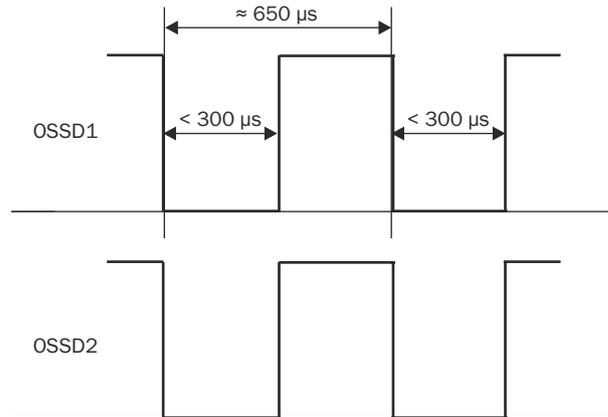
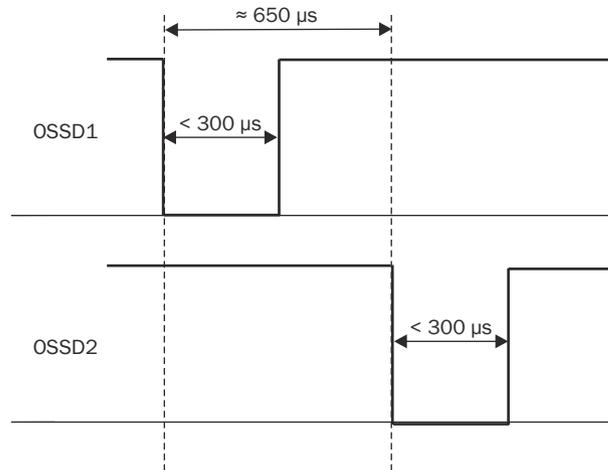
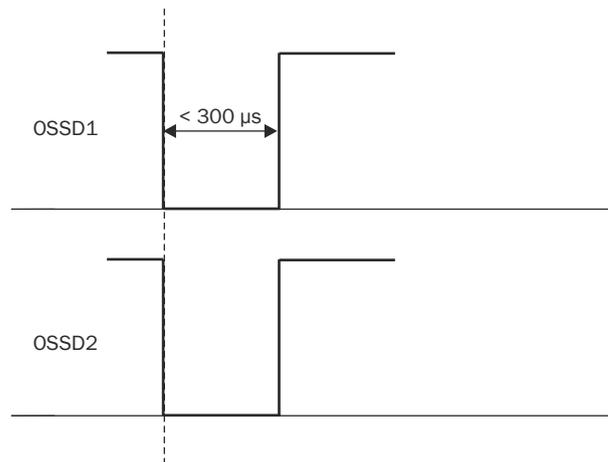

Figure 82: Voltage test after switching on the OSSDs
Figure 83: Shut-down test
Figure 84: Voltage test
After a further half basic response time of the device there is a shut-down test ②, 120 ms later a further voltage test ③. Then the device performs a shut-down test and a voltage test alternately at an interval of 120 ms. Pulse duration for the individual tests, see figure 82, page 134, see figure 83, page 135, see figure 84, page 135.